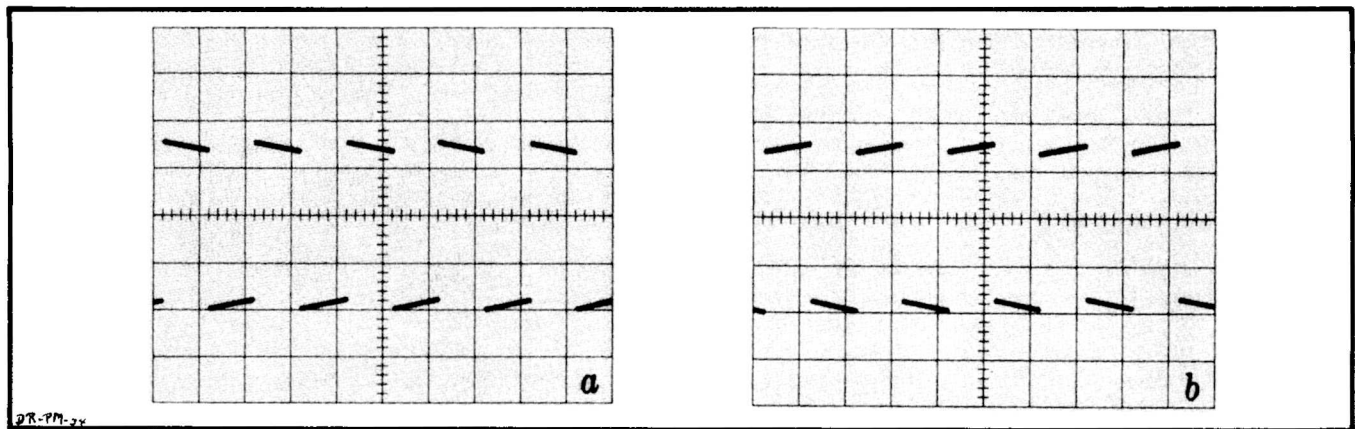
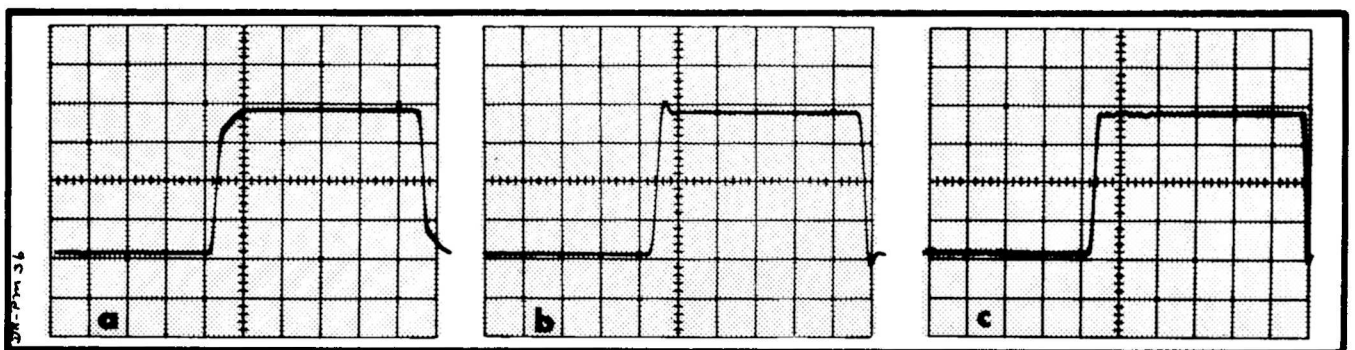

Fig. 4-10. Two types of low-frequency distortion.
Fig. 4-11. Three types of high-frequency distortion.
Waveform distortion can be divided into two categories; (1) low-frequency distortion, illustrated in Fig. 4-10 and (2) high-frequency distortion, illustrated in Fig. 4-11. Any low-frequency distortion apparent in the waveform will be produced by the Preamplifier. The main Vertical Amplifier is dc-coupled; therefore its response is flat down to dc.
Low-frequency attenuation will produce the type of distortion shown in Fig. 4-10(a). This is caused by the cathode- and screen-bypass capacitors, and by coupling capacitors. Before attempting any component replacement, however, be sure to check the adjustment of the LOW FREQ. ADJ. control (R175), as explained in the Calibration Procedure.
Over-compensation of low frequencies is illustrated in Fig. 4-10(b). This condition is produced by excessive low-frequency "boost". Refer to the Circuit Description for an explanation of how the "boost" circuit operates.
Insufficient high-frequency peaking, which limits the risetime and consequently the bandwidth, will produce the type of distortion illustrated in Fig. 4-11(a). Tubes are often
The condition, illustrated in Fig. 4-11(b), is the result of excessive high-frequency peaking, and is produced by improperly adjusted peaking coils. The condition, shown in Fig. 4-11(c), is produced by an improperly adjusted Delay Line. Refer to the Calibration Procedure for the Delay Line tuning procedure.